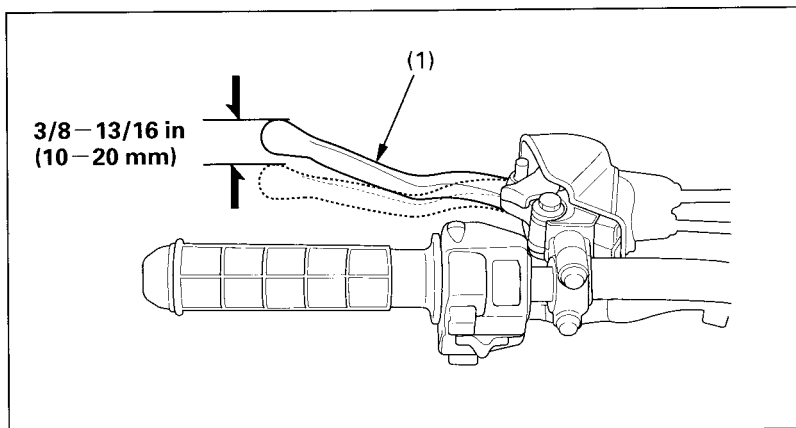

Fig. 4-19
Normal clutch lever freeplay at the lever (1), (Fig. 4-19) is: